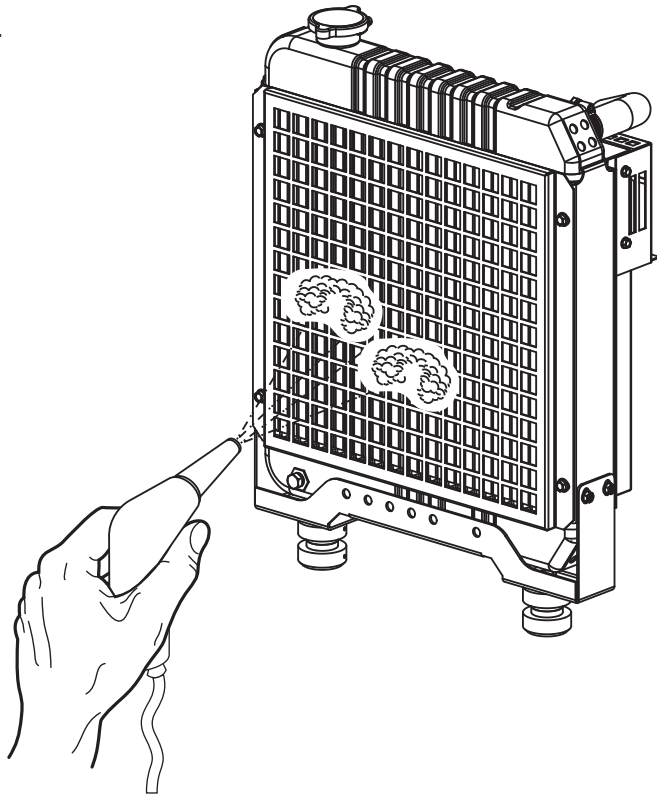

Figure 35. Radiator Cleaning
1. Blow off dirt and dust from the fins and radiator with 28 psi (193 kPa) or less of compressed air (Figure 35). Be careful to not damage the fins with the compressed air.